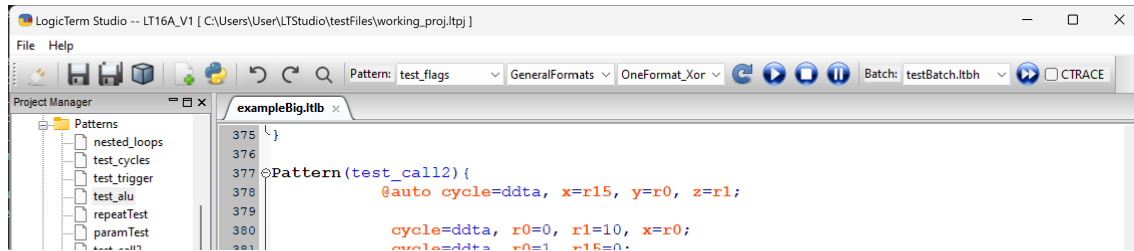

Figure 3.2: LTStudio control button bar
1. Open LTStudio from the Start Menu or desktop shortcut. Figure 3.2 illustrates the toolbar buttons available for different functions.